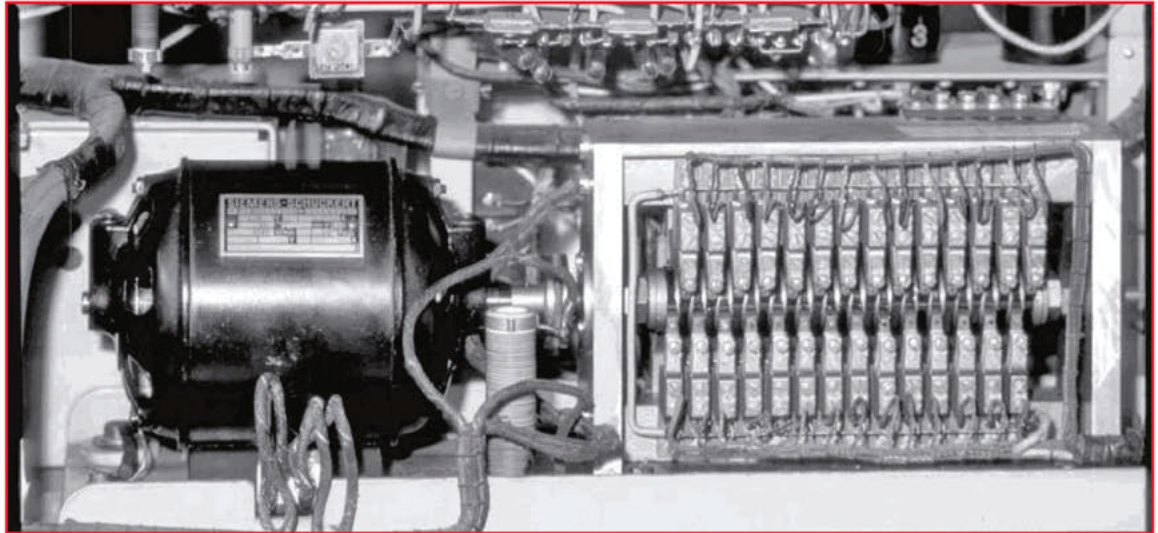

Figure 3. Drive motor and camshaft switching gear comprising 54 spring sets. (original photo)
First cautious attempts: the drive motor for the two sets of 27 cam switches (Figure 3) was stuck; no high tension (HT) for the 7-inch (18 cm) cathode ray tube (“Braun’sche Röhre”) with asymmetrical deflection. Unfortunately, this tube had become unusable due to corrosion of the wires at the pinched base. Only the audio frequency (AF) part of the instrument seemed to be functional to some extent.